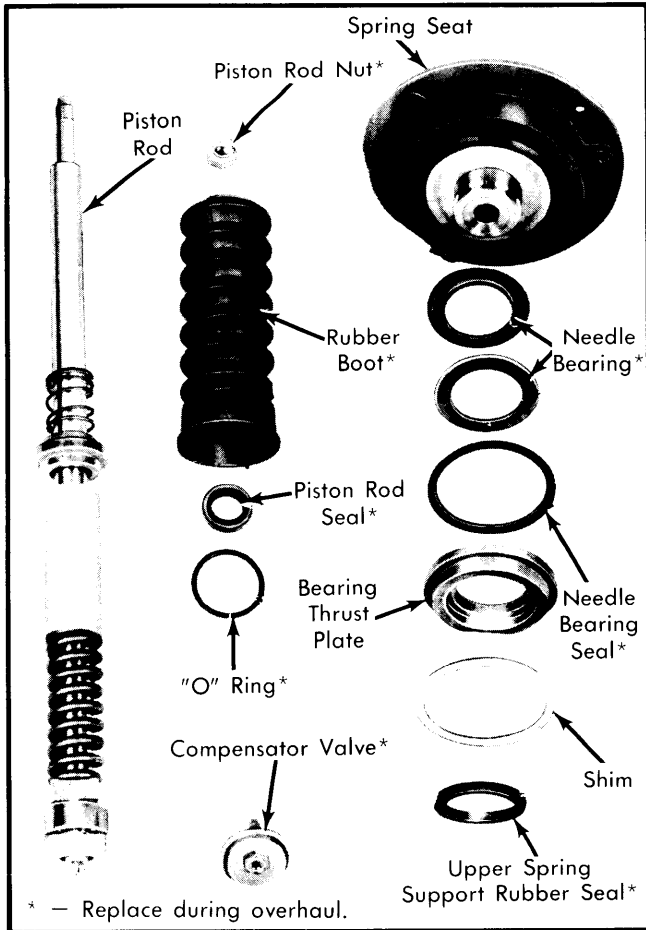

Fig. 3 Peugeot 504 and 604 Shock Absorber and Spring Seat Components
Cleaning & Inspection - Clean and inspect all parts for wear or damage; replace defective parts. All components indicated in Figs. 3 and 4 must be replaced during overhaul.
2) Fit shock absorber tube to strut housing. Fill shock absorber with 10 oz. (504 and 604) or 11 oz. (505) of Esso Oleofluid 40X (or equivalent). Slowly insert piston rod assembly into shock absorber tube. Clearance between upper shock absorber housing and upper bushing must be .12" (3 mm).
4) Install rubber dust boot. Fully extend piston rod and place holding clamp between bottom of dust boot and shock absorber cap nut. Place housing horizontally in vise. Fit new seal to bearing thrust plate. Reassemble upper spring seat components as shown in Figs. 3 and 4.